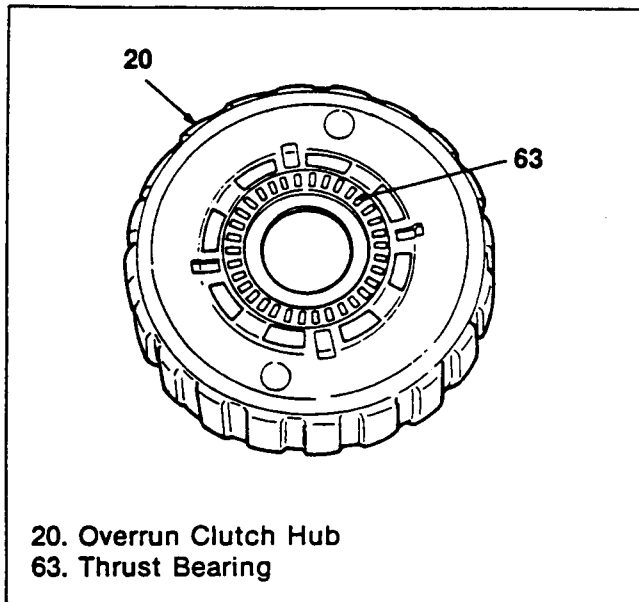

Figure 256. Overrun Clutch Hub Installation (1)
Overrun Clutch Hub (Figures 256 and 257)
1. Apply Vaseline to the thrust bearing and the thrust washer, and install them to the overrun clutch hub (figure 256).